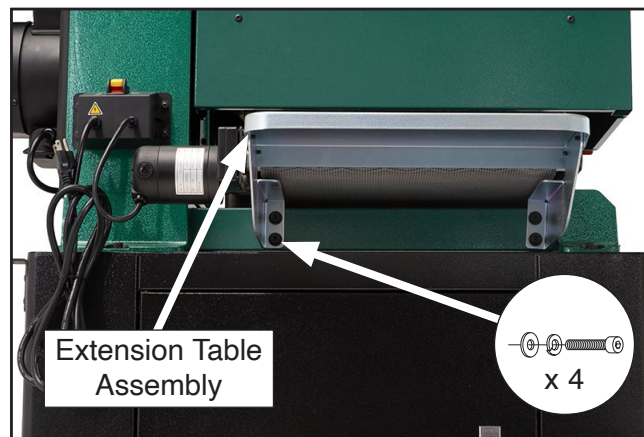

Figure 14. Extension table assembly attached to outfeed end of conveyor base.
- Attach extension table assembly to outfeed end of conveyor base using (4) M8-1.25 x 20 cap screws w/washers (see **Figure 14**).